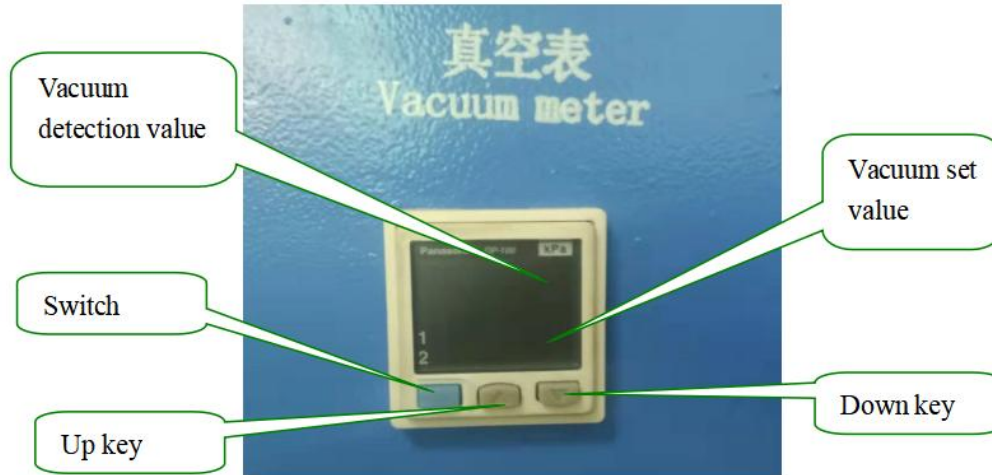

Figure 2
*Vacuum value setting: As shown in Figure 2, the upper line is the vacuum detection value, and the lower line is the vacuum set value. When vacuuming, when the vacuum in the sealed chamber reaches the set value, a signal is output to start the next process. Press the "blue key/switch" to display P1, which is to set the vacuum degree value, and then press the "up key" and "down key" keys to adjust the set vacuum value. (The setting range is generally around -85 to -90kpa)
*Supplementary air pressure setting: As shown in Figure 2, when supplemental air reaches the set pressure value, the signal will be output to start the opening work. Press the "blue key/switch" to display P1 first, and then display P2. The value of P2 is the pressure value for setting inflation. Press the "up key" and "down key" keys to adjust the set vacuum value. (The setting range is generally around -3~0kpa).